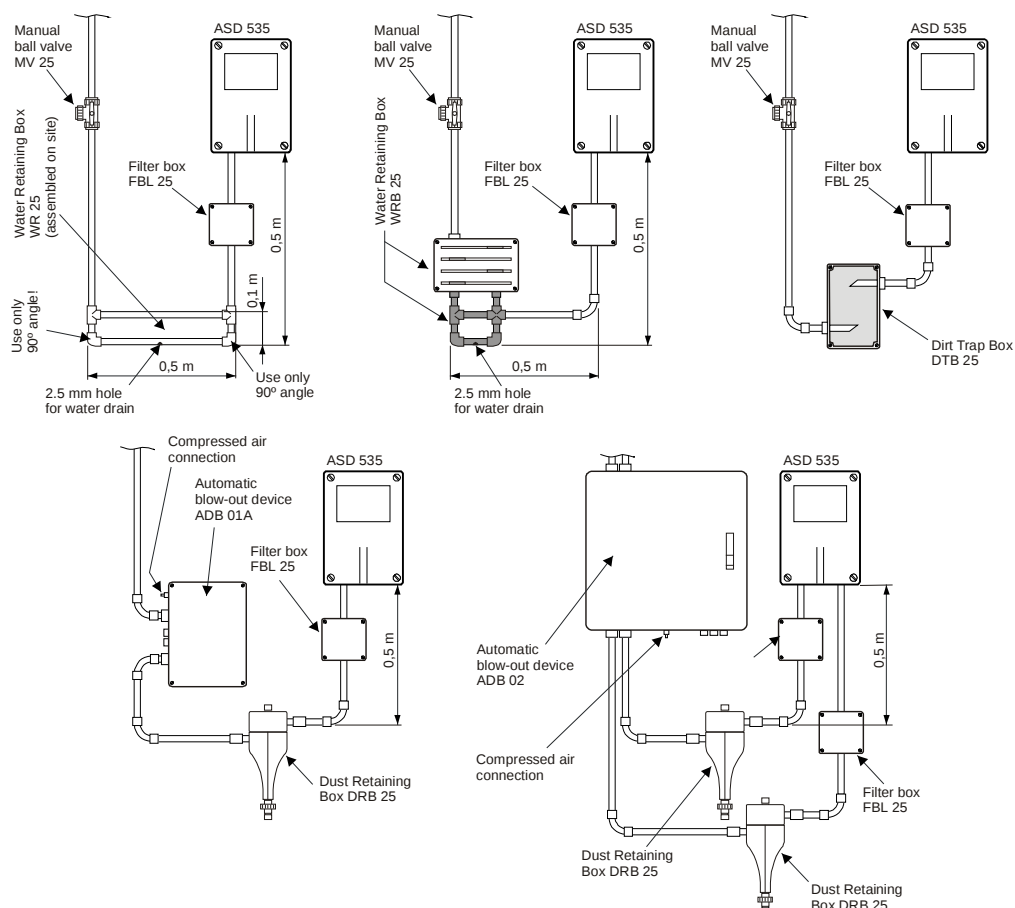

Fig. 31 Mounting accessory parts
- The mounting positions of water separator, dust trap and dust separator must be observed as shown in **Fig. 31**.